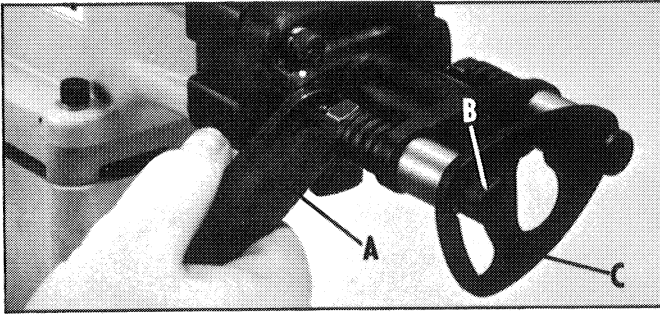

Fig. 1
3. Using a bar (A) or similar object, pry latch bolt head (B) out of counterbore of latch (C), as shown in Fig. 1.